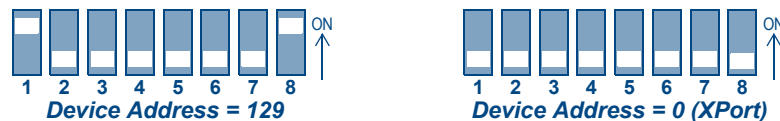

FIG. 14 Example Device DIP Switches
2. Locate the 8-position Device DIP switch on the rear panel.(FIG. 14).
The device number is set by the total value of DIP switch positions that are ON (up). As an example, the first DIP switch in FIG. 14 defines device number 129 (1+128=129).